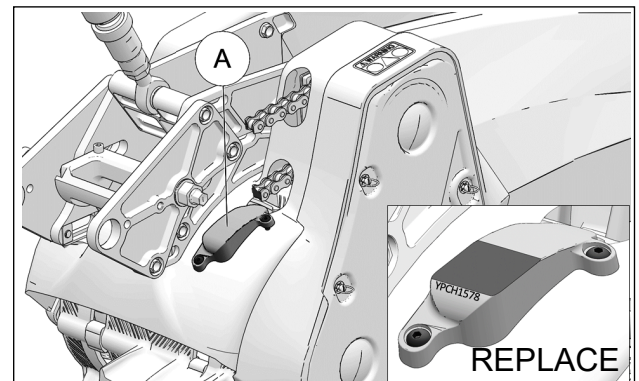

Figure 50
Verify wear on Chain guard (A). Replace guard if wear reaches the part number molded at the front. See Figure 50.